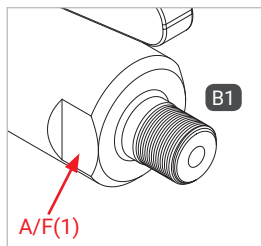

Figure 1
- ▶ When mounting media line, hold an open-ended spanner against the spanner flat AF(1) (Figure 1).
- ▶ Screw the 'B1' media inlet pressure-tight to the port for the media line (Figure 1).